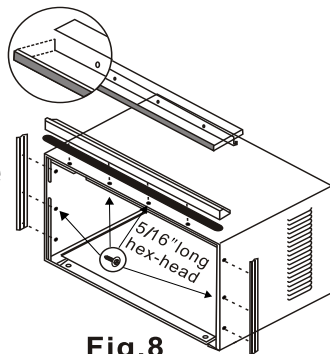

Fig.8
2. Install top rail and side retainers to cabinet as shown in Fig.8 (10 screws). Screws should go from the inside of the cabinet to the outside of the cabinet.